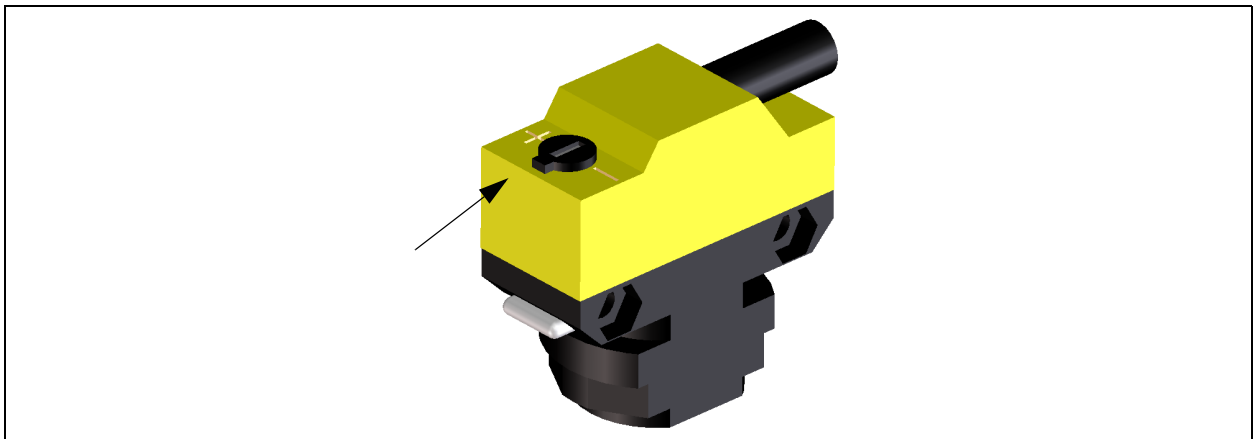

Fig. 166 - Adjusting the Missing Pack Unit™ sensor
1. The Missing Pack Unit™ is adjusted by positioning the setting dial mid-way between the plus and minus, see fig. 166.